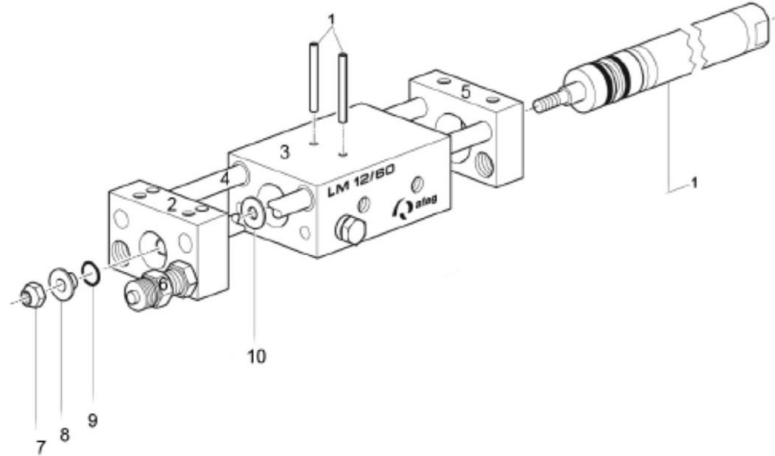

Fig. 22 Replacing wear parts - LM 12
1. Fasten the housing (Fig. 22, 3) in a vice and loosen the lock nut (Fig. 22, 7) - while holding the piston rod.
2. Remove the washer (Fig. 22, 8) and O-ring (Fig. 22, 9).
3. Press out the two dowel pins (Fig. 22, 1) on the hand press.
4. Remove the cylinder (Fig. 22, 1) to the rear from the housing (Fig. 22, 3).
5. Clean the housing (Fig. 22, 3).
1. Insert the new cylinder (Fig. 22, 1) into the housing (Fig. 22, 3).
2. Press 2x dowel pins (Fig. 22, 1) into the housing (3) using a hand press.
3. Insert the piston rod into the front plate (Fig. 22, 2) and put on the washer.
4. Hold the piston rod and screw the nut (Fig. 22, 7) on the piston rod.
7. Carry out a final check before installing the module: The guide shafts (Fig. 22, 4) must be movable in the housing (Fig. 22, 3).